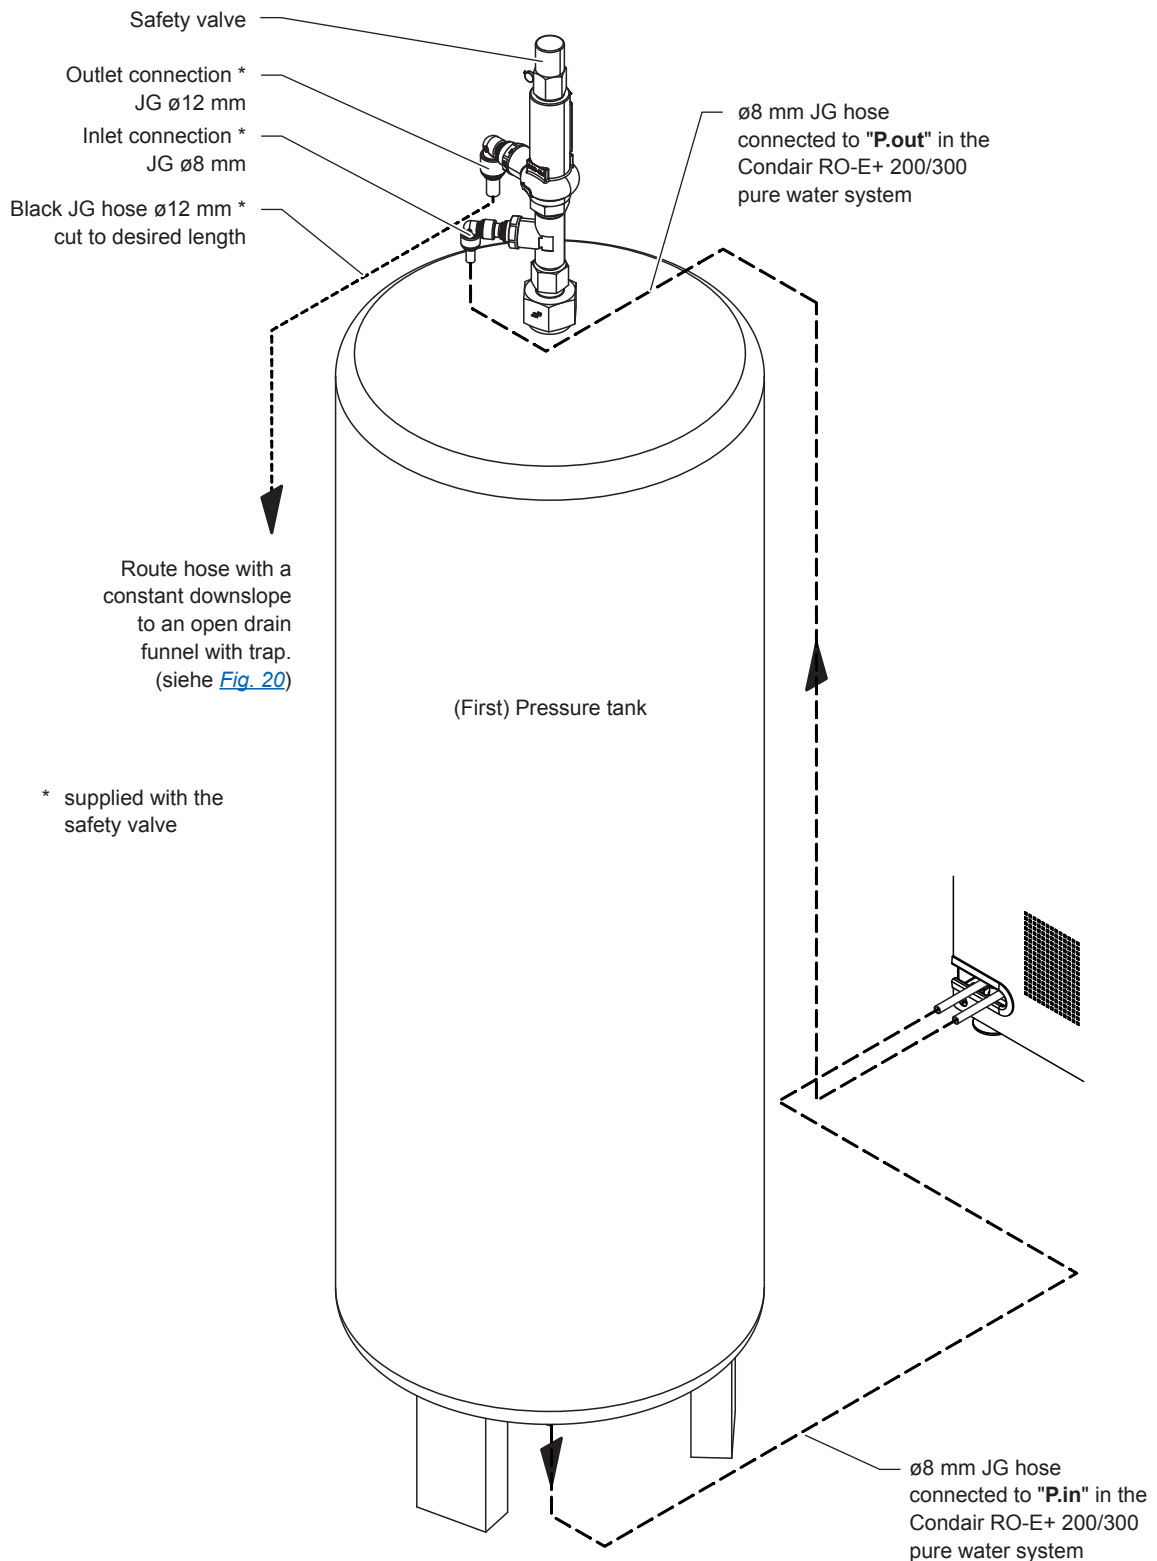

Fig. 28: Connecting the pressure tank safety valve to the Condair RO-E+ 200/300 pure water systems
1. Connect the JG hose $\varnothing 8$ mm from the "P.out" port of the Condair RO-E+ 200/300 pure water system to the JG8 angle connector of the safety valve as shown in Fig. 28.
2. Connect the supplied $\varnothing 12$ mm JG hose to the JG12 outlet connection of the safety valve and route the hose with constant downslope to the open drain funnel with trap as shown in Fig. 28.